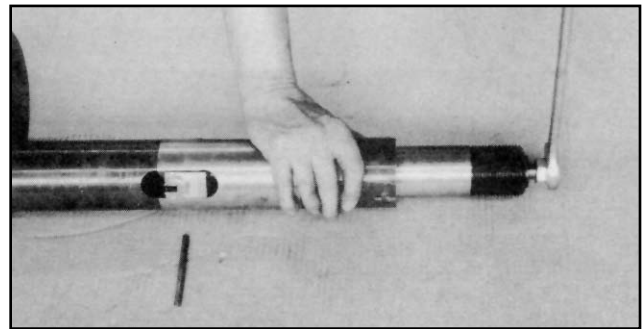

Figure 41
- Using the nuts as the head of the adjusting screw, Figure 41, remove the screw from the adjusting block.